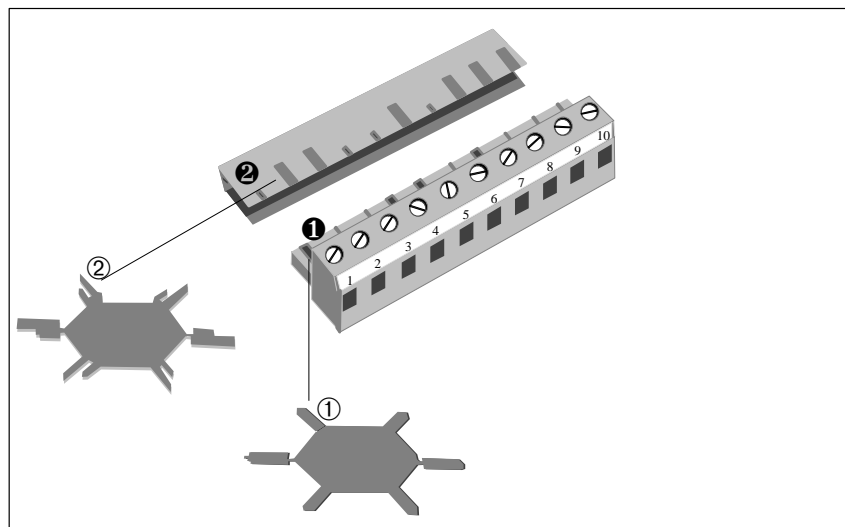

Figure 2-11 How to Key Connectors.
The solid coding keys ① and profiled coding keys ② (see Figure 2-11) prevent a connector from being confused with another without polarity reversal.